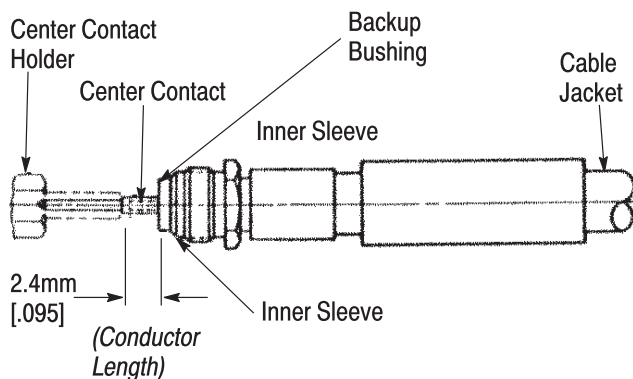

Figure 4
3. Trim and de-burr the inner conductor projection to length (as shown in Figure 4).
5. Place the center contact in the holder. See Figure 4.